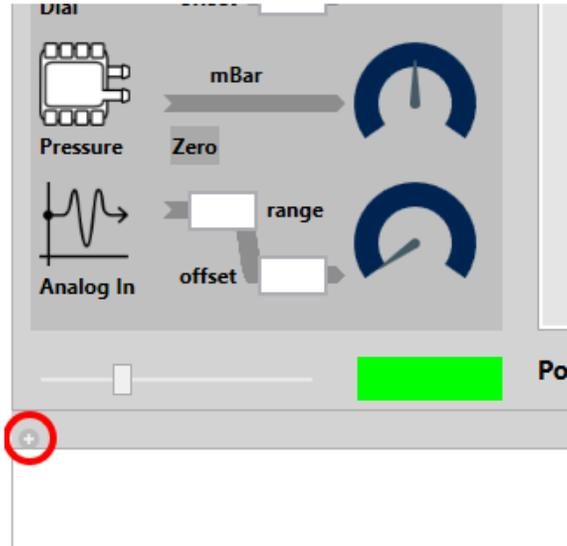

Figure 28. Creating a plot window.
- Click on the “+” button to create a plot tab as shown in Figure 28.